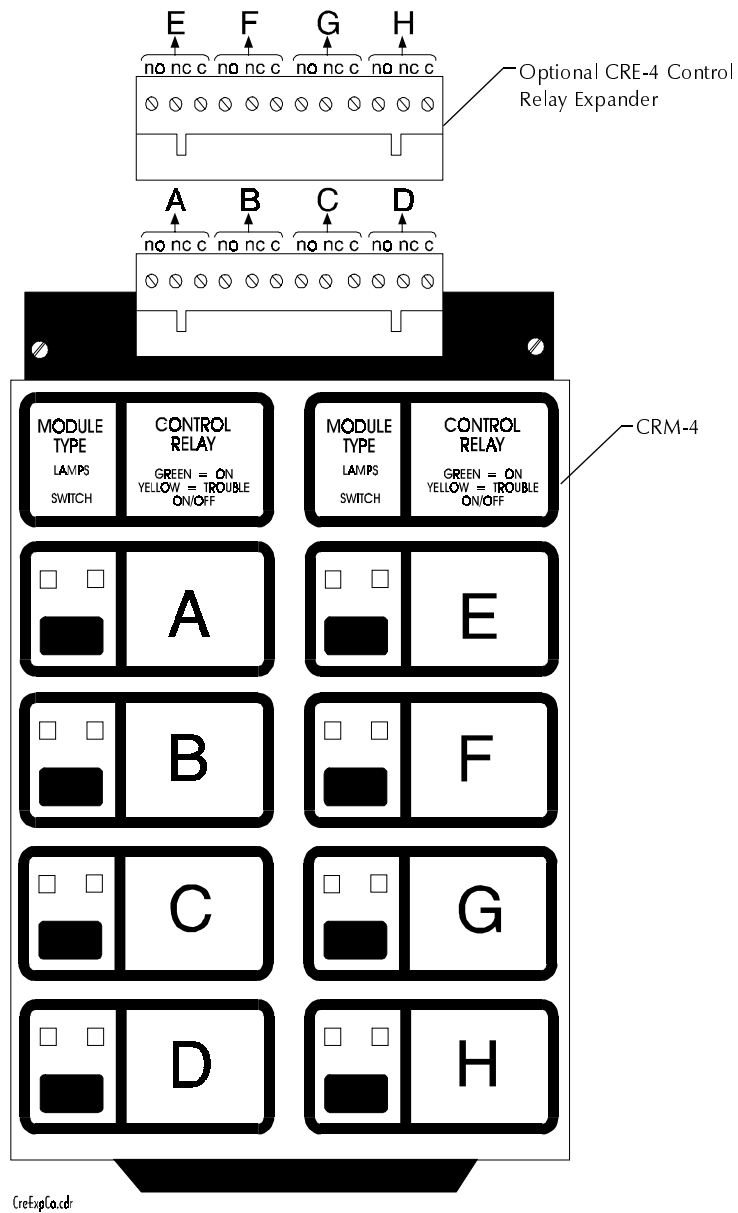

Figure 2-37 Field-Wiring a CRM-4/CRE-4 Module
- These Form-C silver alloy relay contacts are for medium duty switching or pilot duty (Figure 2-37).
Figure 2-37 shows typical connections for field-wiring a CRM-4/CRE-4 module: